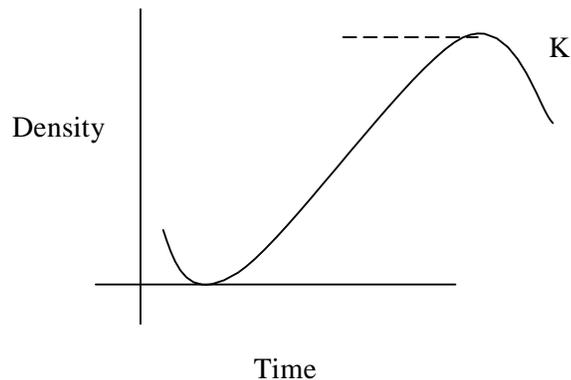

Fig. 1b. S - shaped growth form.
- ii. S- Shaped or sigmoid growth form (Fig 1b)